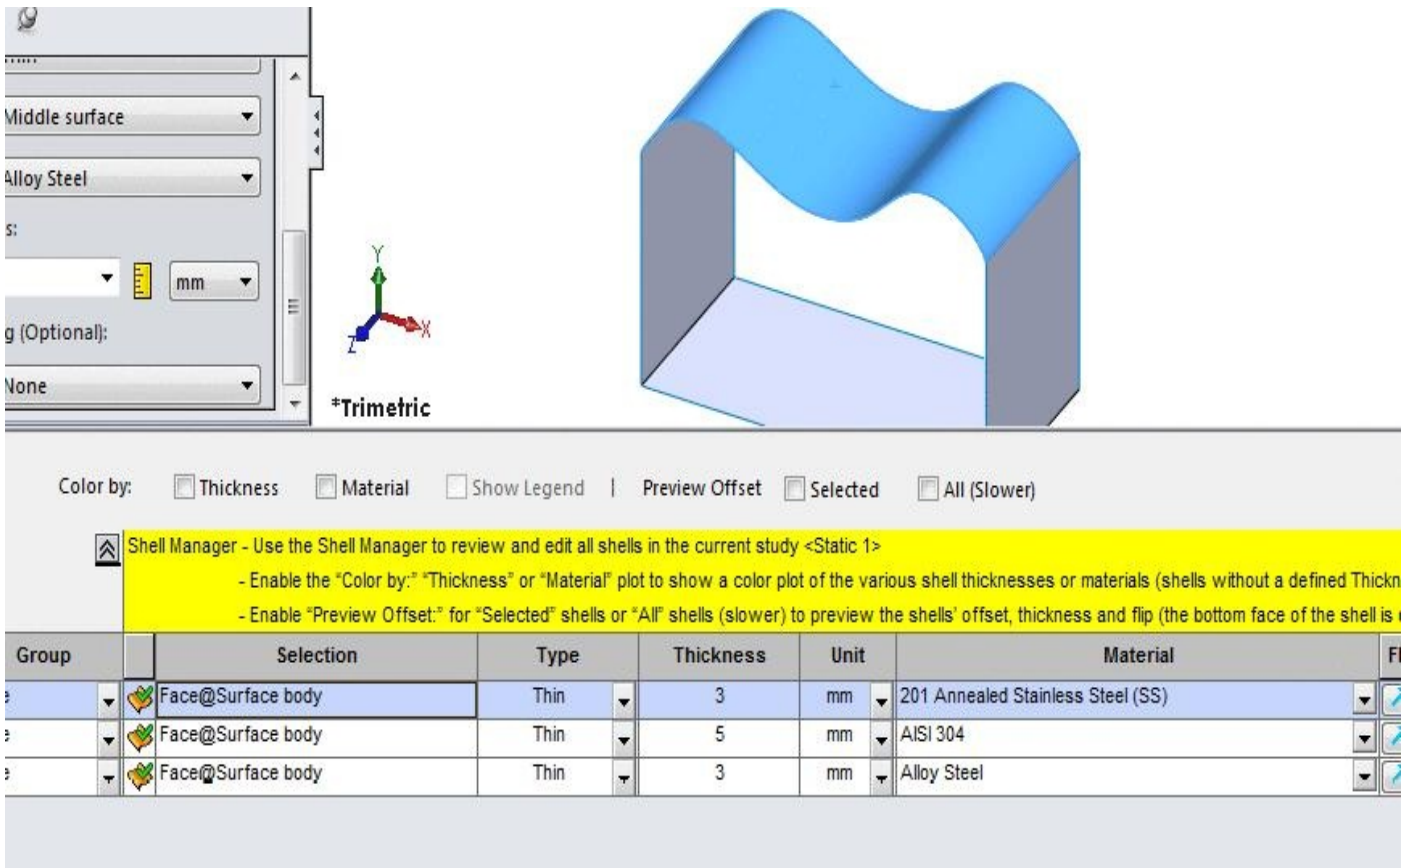

Figure-29. Faces with different material and thickness
- Similarly, you can select other parameters like material, offset type etc. for individual faces. Figure-29 shows the faces assigned with different materials.